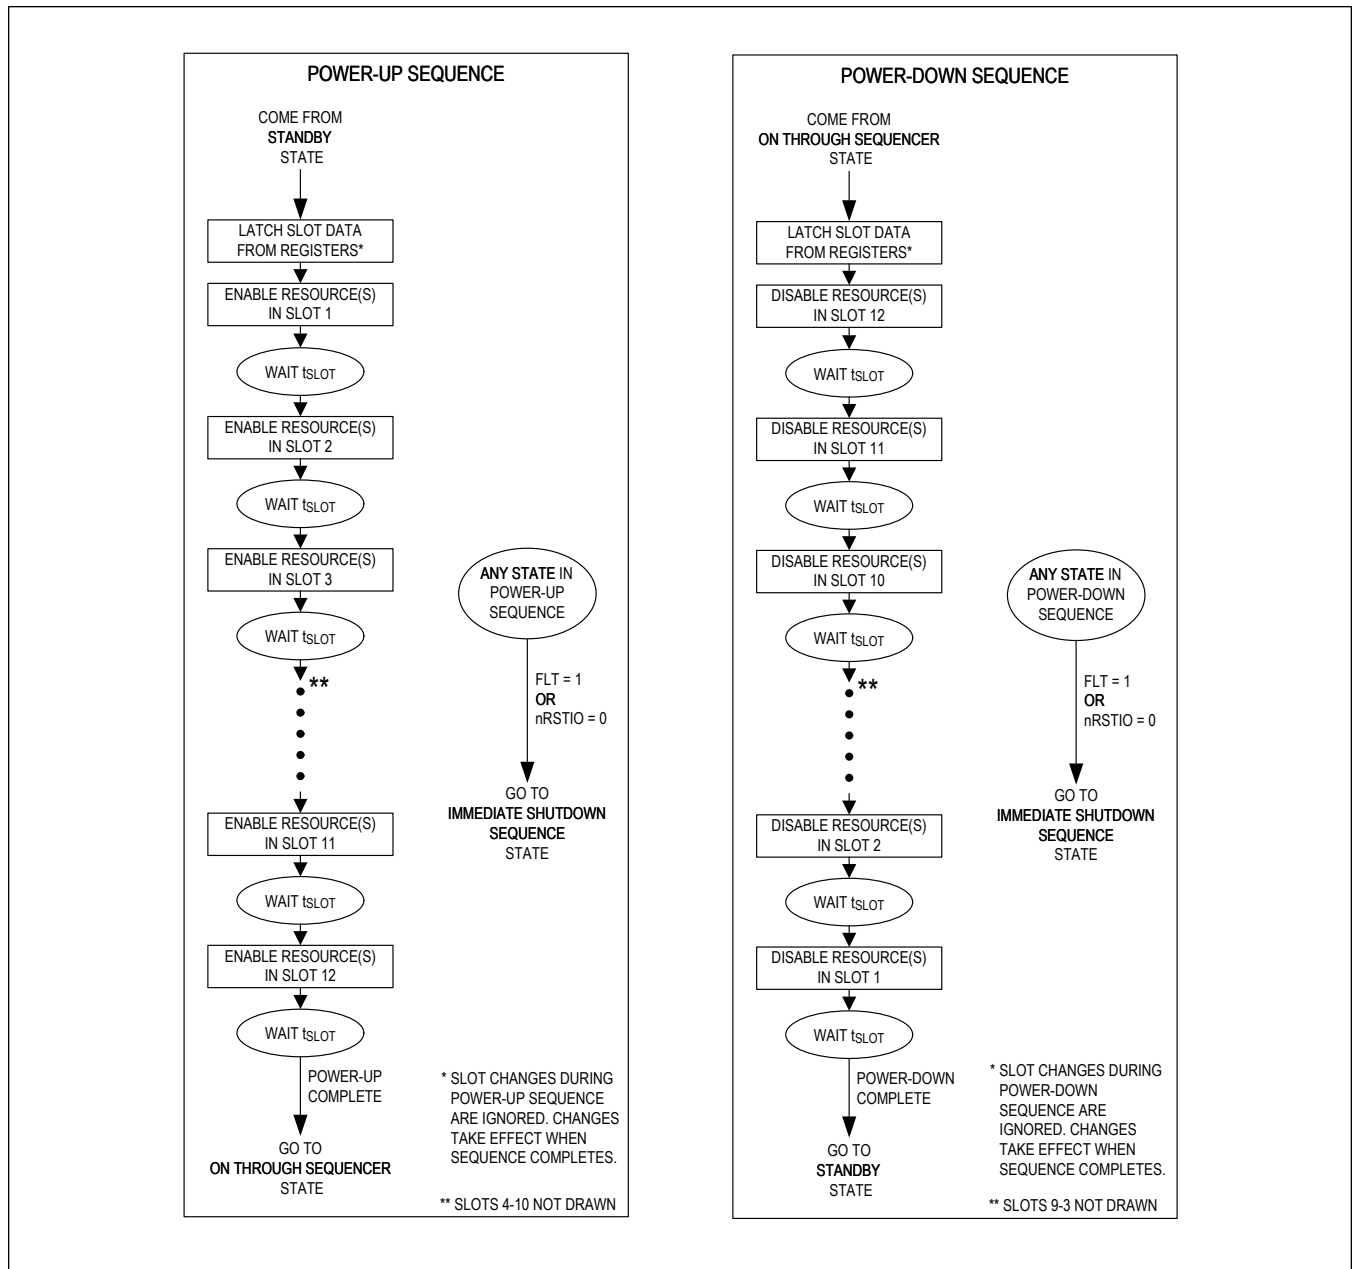

Figure 2. Power-Up/Down Sequence State Actions
- Slots count upwards from 1 to 12 in the power-up sequence (Figure 2, left).
- Slots count downwards from 12 to 1 in the power-down sequence (Figure 2, right).